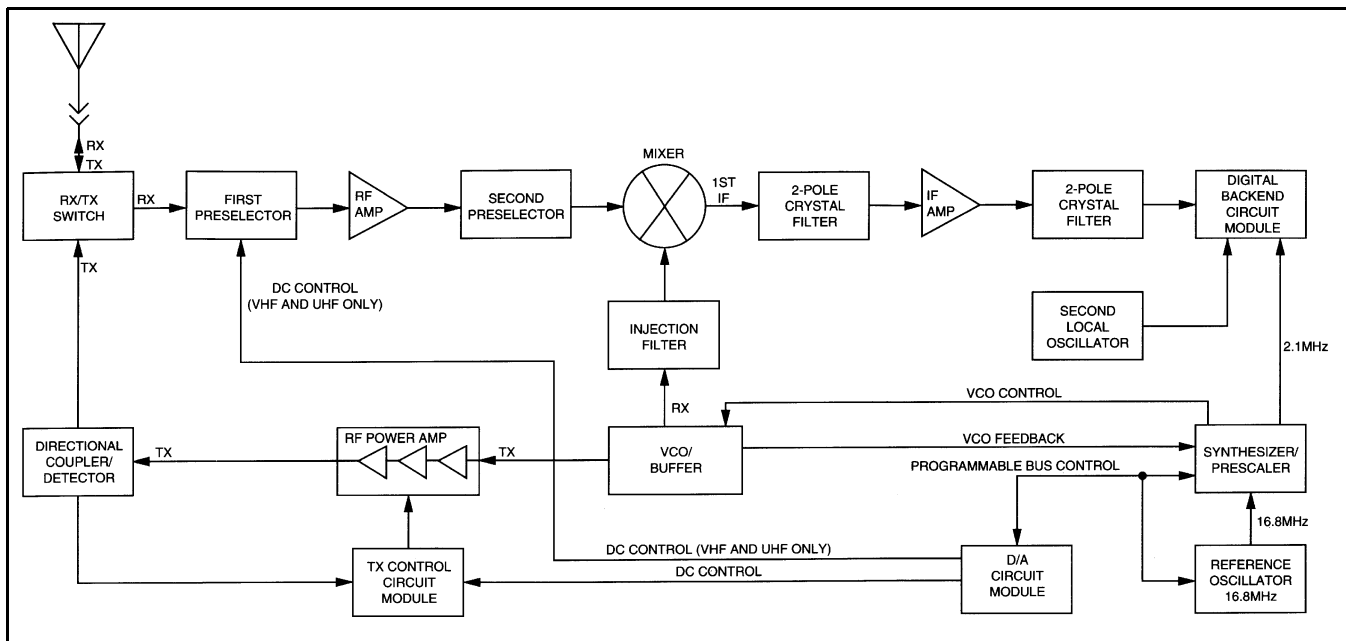

Figure 5-1 RF Board Block Diagram
The receiver front end consists of a preselector, RF amplifier, second preselector, and mixer (see Figure 5-1). Both preselectors on the VHF and UHF board are varactor-tuned, two-pole filters controlled by the microcontroller unit through the D/A IC. The 800 MHz board uses stripline technology for the preselector. The RF amplifier is a dual-gate gallium-arsenide IC. The mixer is a double-balanced, transformer-coupled active mixer. Injection is provided by the VCO through an injection filter. See Table 5-2 for local oscillator (LO) and first IF information.